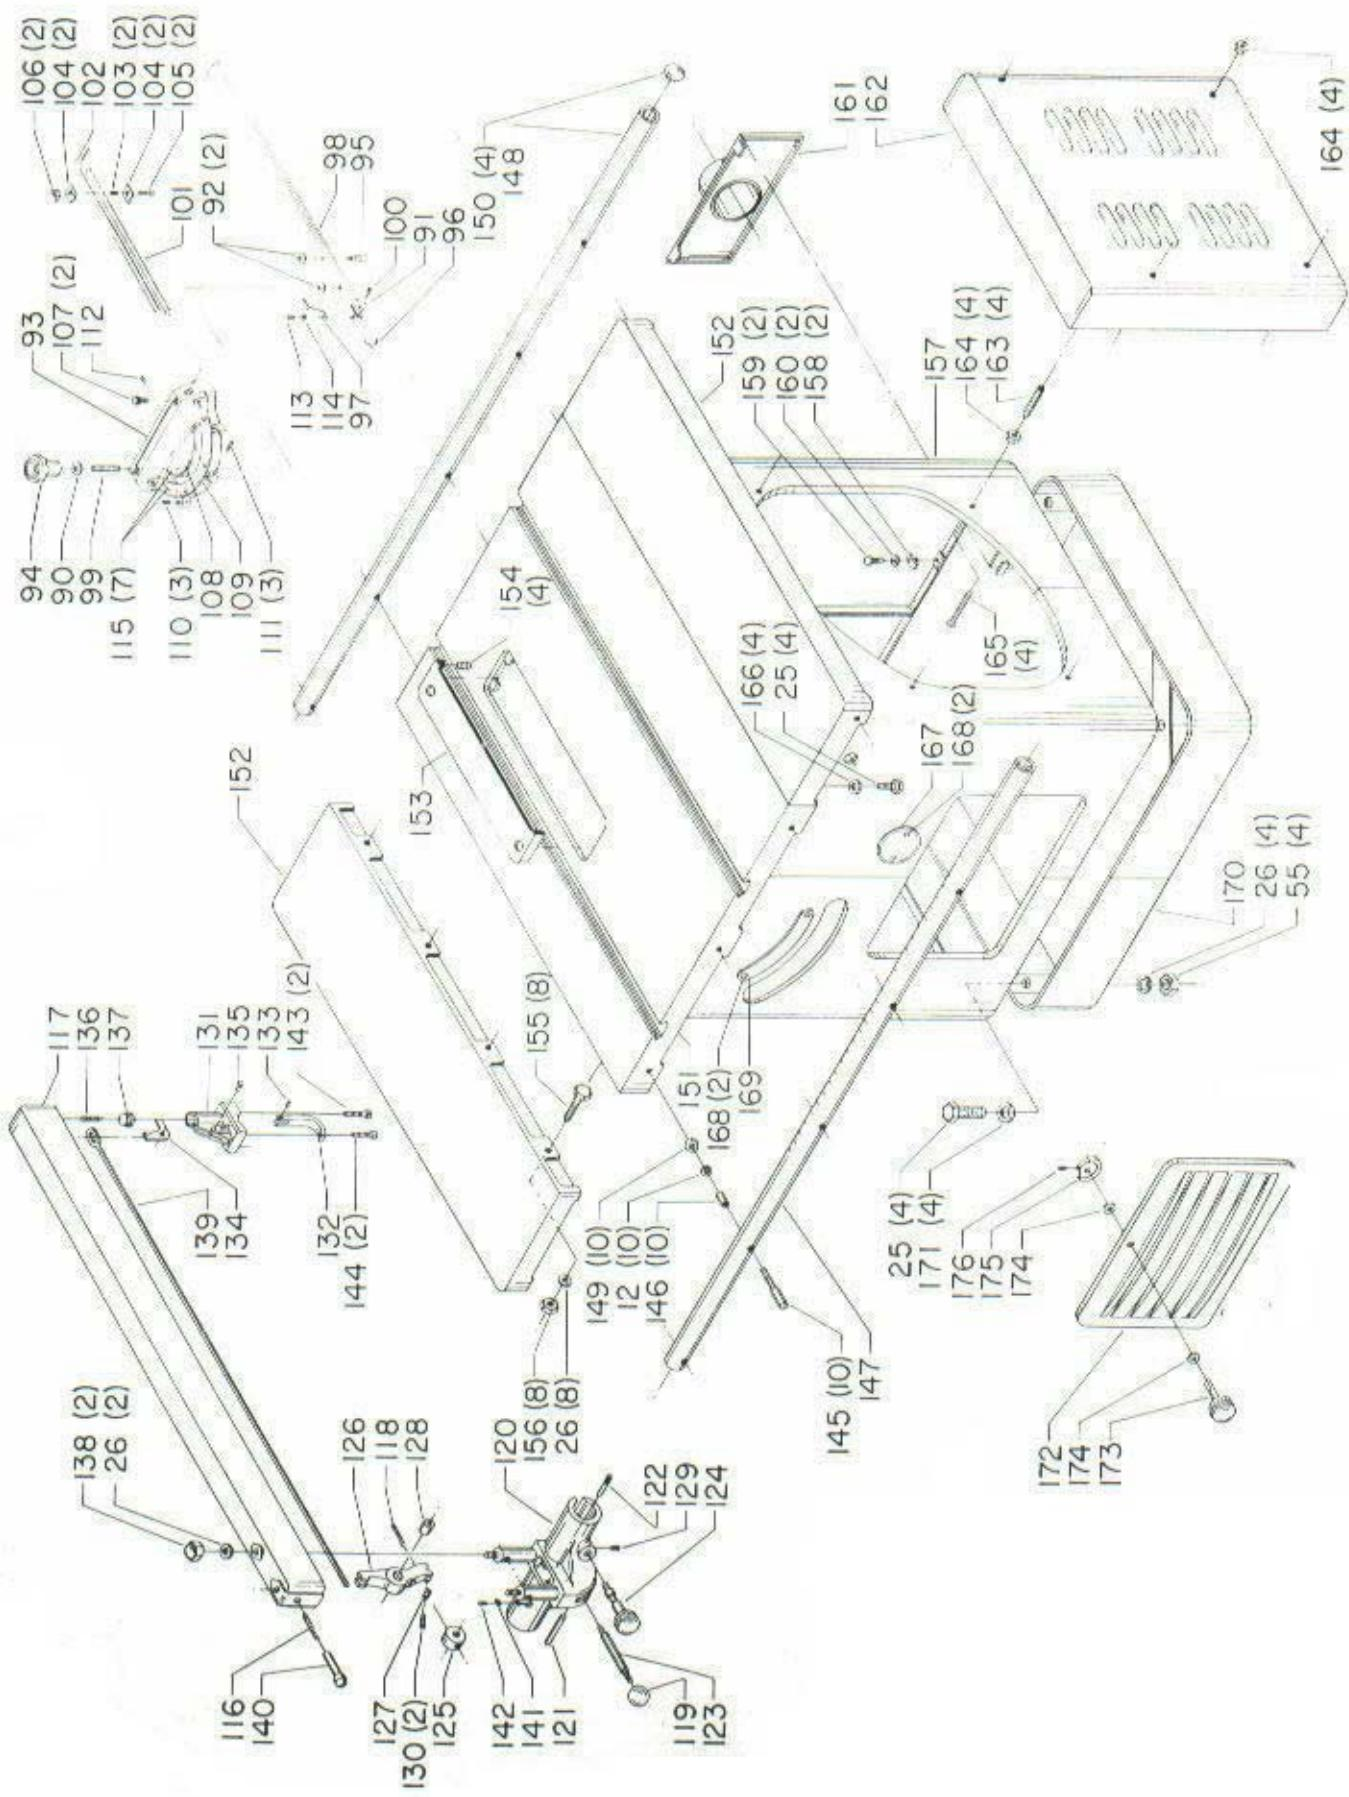

Fig. 4.
3. If rear fence lock is not holding securely, loosen front lock and turn adjusting screw (140) Fig. 4, to the right.
1. Loosen locknut (52) and turn stop screw in or out required amount and tighten nut. The stop screw for the 45° position is accessible through the semicircular slot in the front of the cabinet. The stop screw for the 90° position is accessible through the cleanout door or by removing the motor cover after the arbor is tilted.
2. MITER GAGE FIG. 4 pivots on a tapered screw (95). As wear occurs, loosen set screw (112) and tighten pivot screw. Retighten set screw.
Replacement Parts (Fig. 4)